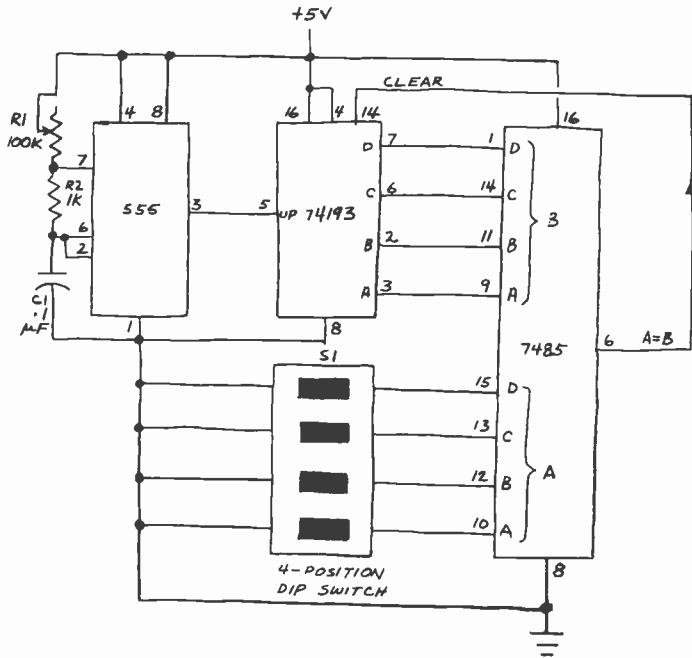

Fig. 7. A programmable 4-bit counter using a 7485 with a 74193 and 555 clock.
**Using the 7485 in a Programmable Counter.** Figure 7 shows how to make a programmable 4-bit counter with the help of a 7485. The desired count, which can be any number between 0001 and 1111, is entered into the DIP switch. The 555 functions as a clock that drives the 74193 through its count sequence. In operation, the 7485 continually interrogates the count and compares it with the number loaded into the DIP switch. When the two are equal, the comparator